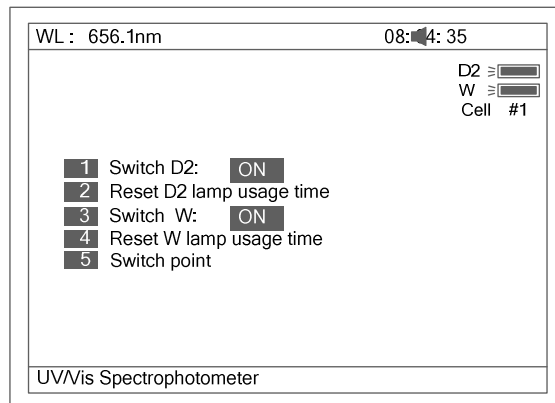
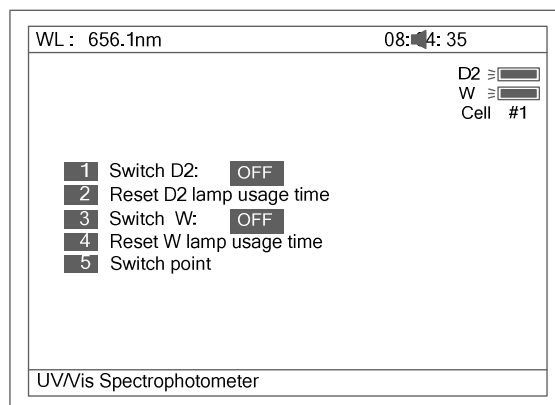
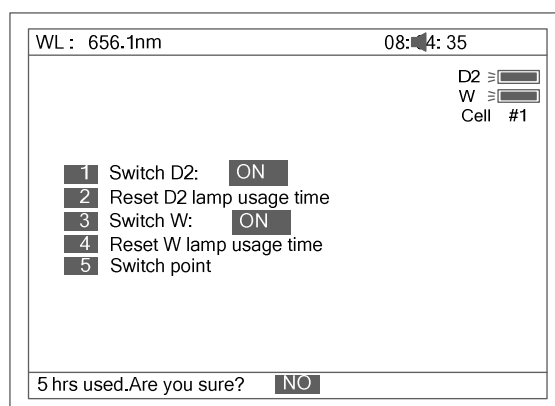

Fig 79
Fig 80
Fig 81
Press **【3】** to set lamp (Fig 79). **【ESC/STOP】** to exit.
1. Press **【1】** in Fig 79 to switch on/off D2. Fig 80.
2. Press **【2】** in Fig 79 to reset usage time of D2 (Fig 81). Press **【^】** or **【V】** to select "Yes" or "No", and then press **【ENTER】**.
3. Press **【3】** in Fig 79 to switch on/off W. The indication is also on the top
4. Press **【4】** in Fig 79 to reset usage of W (Fig 83). Press **【^】** or **【V】** to select “Yes” or “No”, and then press **【ENTER】** .
5. Press **【5】** in Fig 79 to set the switch usage point of D2 and W lamp (Fig 84).